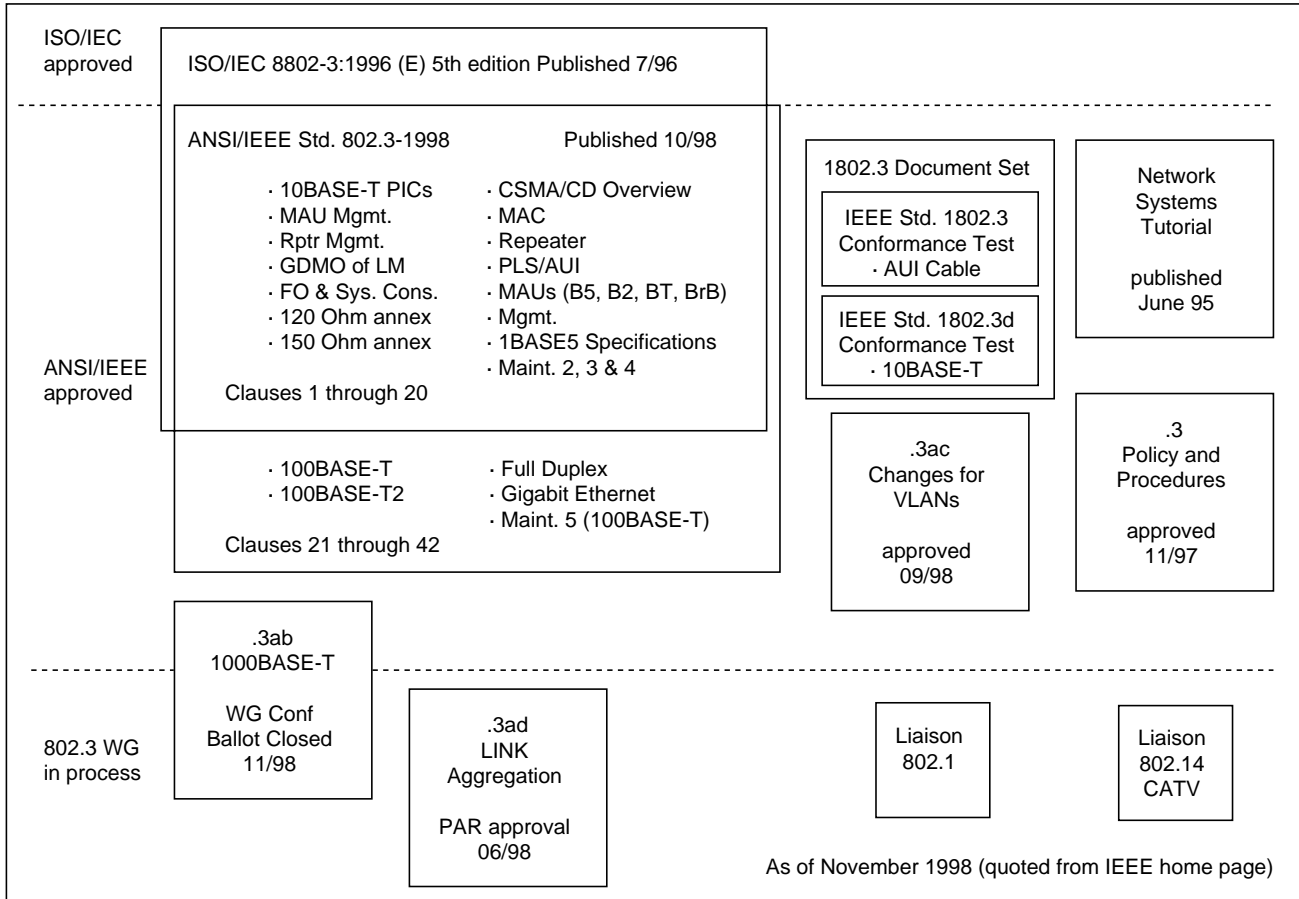

Figure App. 1-1 (1) Trend of Standardization by IEEE 802.3 Working Group
Ethernet is a LAN (Local Area Network) standard for communication among personal computers and printers. It regulates communication data format, cable and connectors. Ethernet standard is established by the IEEE Ethernet Working Group (IEEE 802.3). Till now, various standards such as 10BASE5, 10BASE2 and 10BASE-T have been established, and now new standards for 100BASE-T and other advanced systems are under investigation. Figure App. 1-1 (1) shows the trend of standardization achieved by IEEE 802.3 working group.